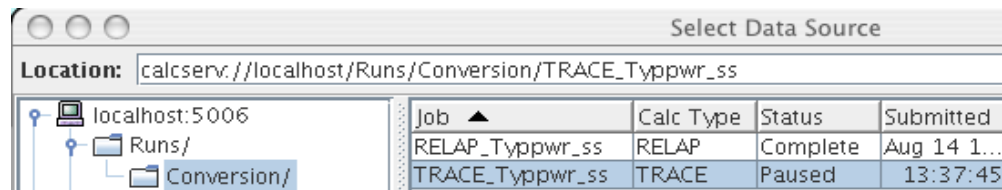

Figure 10: Data Source Selection
13. Select the TR data source in the Navigator, and select the **Source URL** for the paused TRACE run, as displayed in Figure 10.